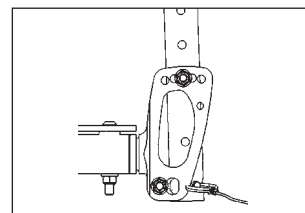

Figure 2
2. The hole in the back tube must be lined up with the hole in the connecting part, such that you can set the desired backrest angle (Figure 2).